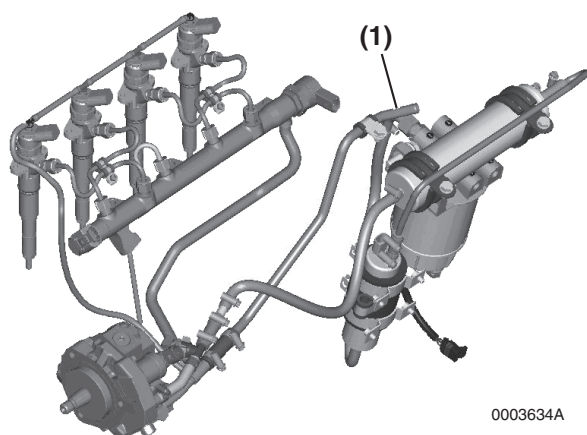

Figure 6-6
2. Disconnect the hose from the fuel return line (**Figure 6-6, (1)**).